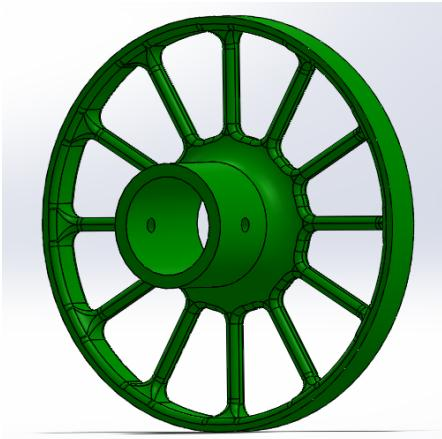

Figure 5: Solid Works Model to hold PVC pole and Cylinder
10. Model in Solid Works a design to hold a 1.5 inch outer diameter PVC pole. The model and dimensions for this design can be found in the uploaded file. See figure 5.